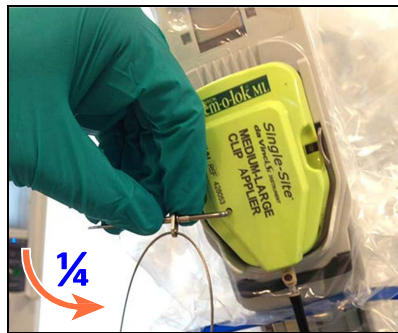

Figure 1. Keep the grip release tool engaged while manually opening the grips
2. Verify that the grip release tool is in place in the housing, and carefully turn the tool counterclockwise (approximately 1/4th turn) until it engages and can no longer turn. Keep the tool engaged during the following steps (Figure 1).